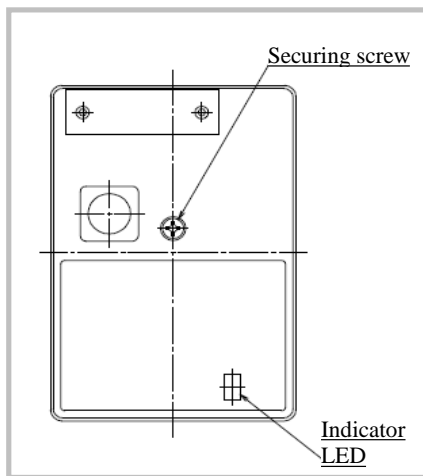

Fig. 1
- (1) Loosen the main body securing screw shown in Fig. 1.
- (2) Hold the subbase and the cover respectively and separate them.